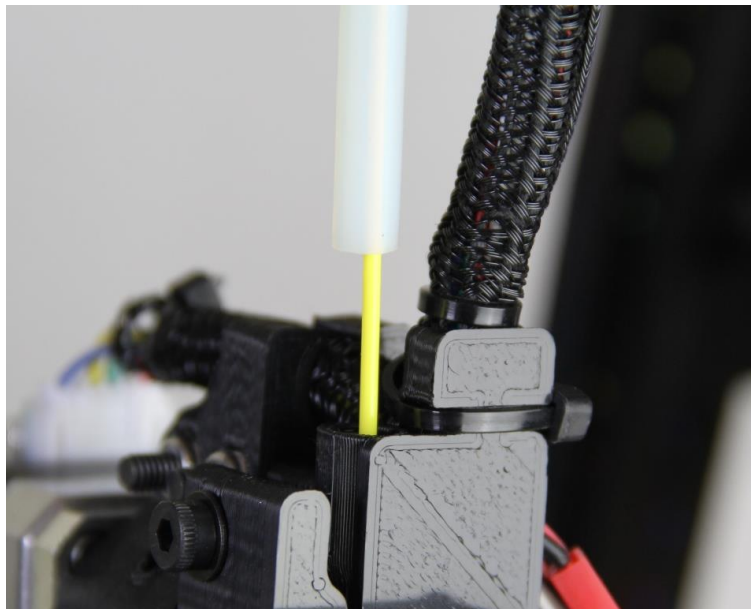

Figure 2.41: Feeding filament into filament drive
- Once the extruder temperature reaches a steady state at the target of  $185^{\circ}\text{C}$ , pop up the filament guide tube from the filament drive, and gently push the filament into the filament drive. (Figure 2.41)